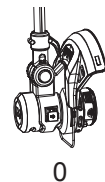

Fig. 10
Tilt the angle of trimmer head (12) to fit the ground conditions for trimming or edging use by aligning the indicator (10a) with the indication line (10b) (Fig. 10).